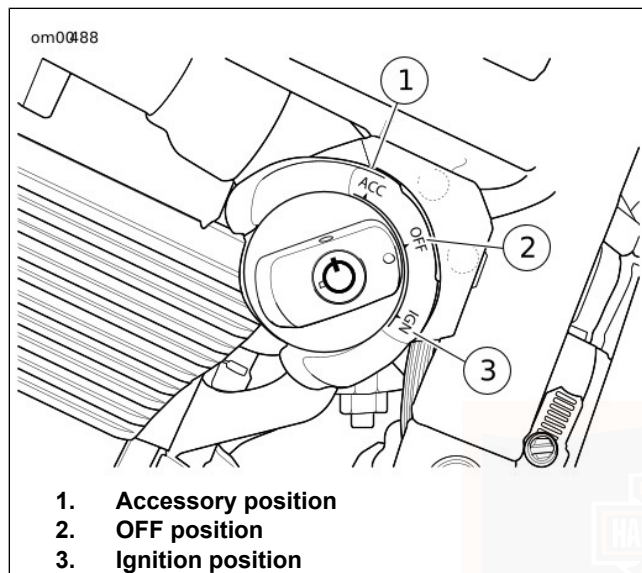

Figure 4. Ignition Switch
See Figure 4. Unlock the switch with the ignition key, and rotate the switch to the desired position.
2. See Figure 4. Turn ignition switch to IGNITION. Push the START switch to operate starter motor.
2. See Figure 4. Turn the ignition key to OFF to turn the ignition power completely OFF.